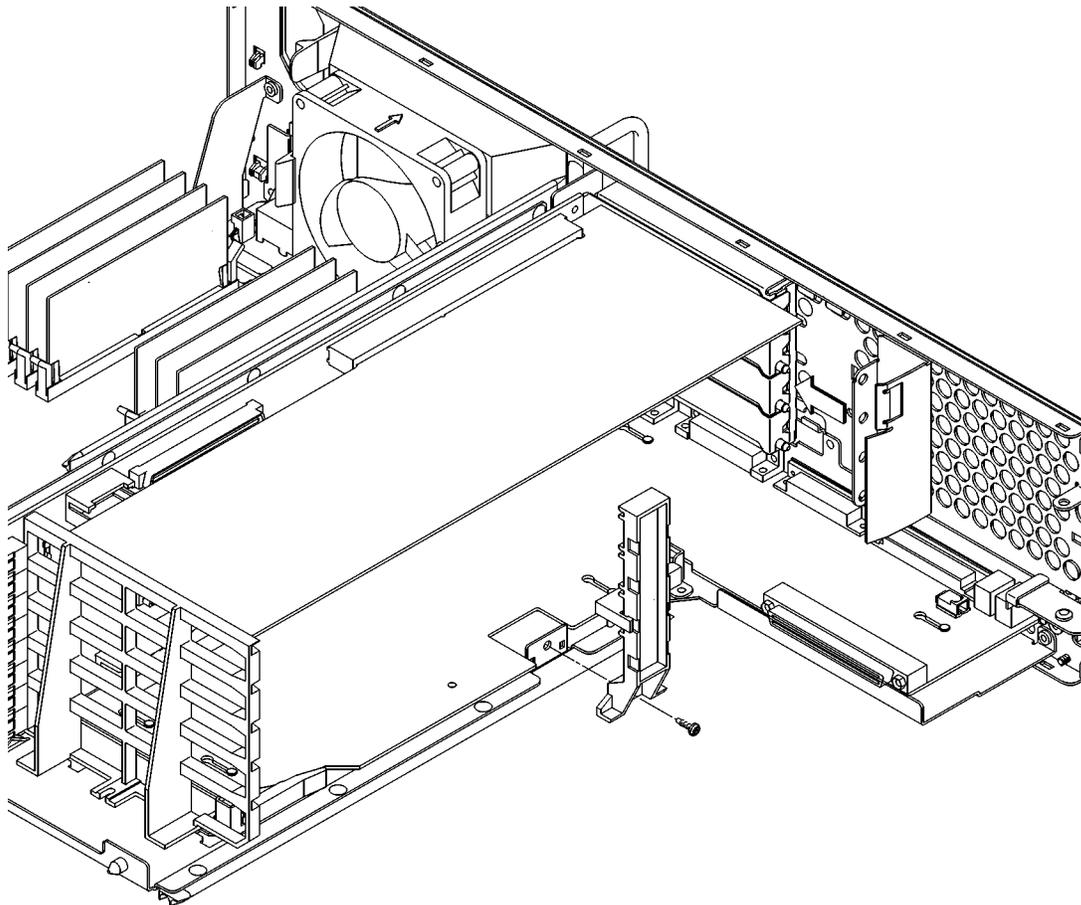

Figure 49 **Installing the EISA Retainer and EISA Slider**
- 11 Replace the EISA retainer and its screw, as shown in Figure 49.
- 12 Replace the EISA slider, as shown in Figure 49.